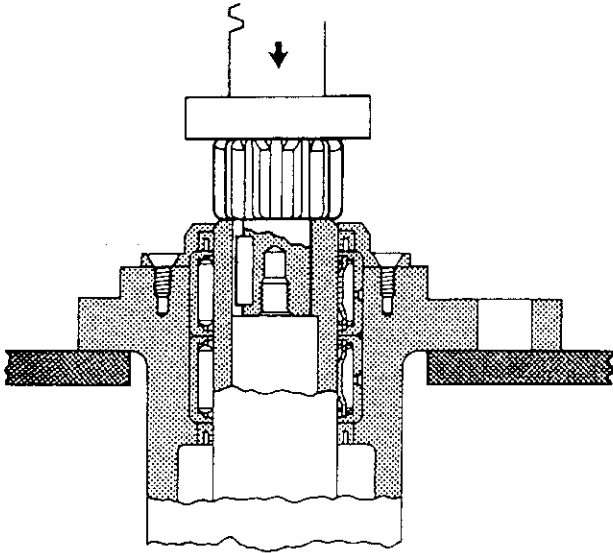

Figure 4.28
28. Press the drive pinion (45) into the facet drive shaft as shown in Figure 4.28.